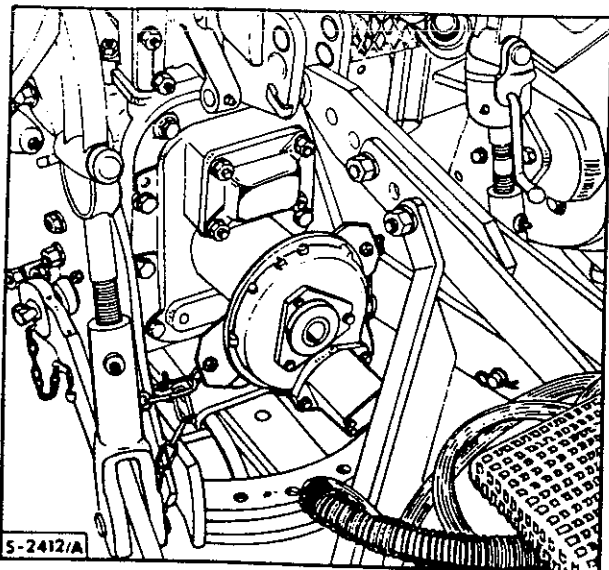

Fig. 5 — Attaching Gearbox and PTO Pump on P.T.O. shaft.
1. Mount gearbox on tractor PTO shaft. (Fig. 5).